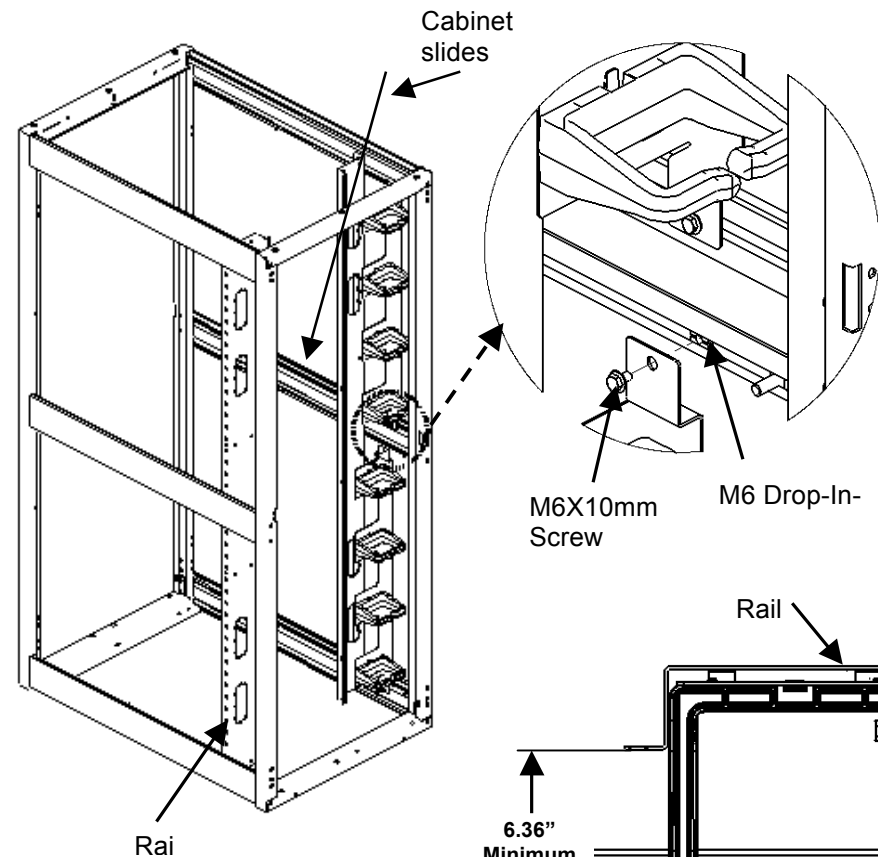
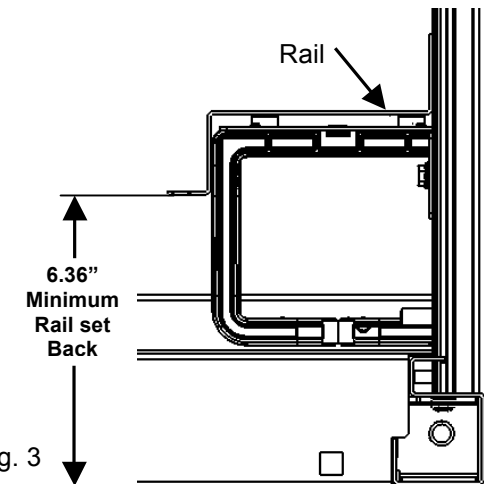

Fig. 2
Fig. 3
The equipment mounting rail must be set back a minimum distance 6.36" (162 mm) for Ring Cable Manager installation as shown in Fig. 2 and Fig 3.
The Ring Cable Manager (Fig.1) attaches to the cabinet slides (Fig 2).
2. Insert M6 Drop-in-Nuts in the slides as shown below. Fasten the Ring Cable Manager bracket using M6X10mm screws into the Drop-In-Nut (Fig 2 detail).